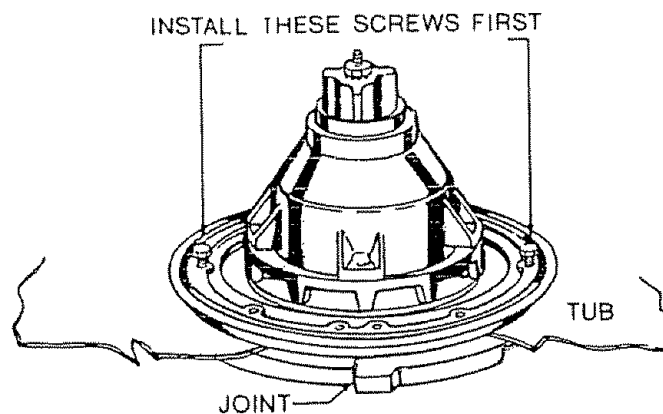

FIGURE 41
4. Install the pump mounting screws. *IMPORTANT: Install one screw on each side of the ring FIRST.* See Figure 41